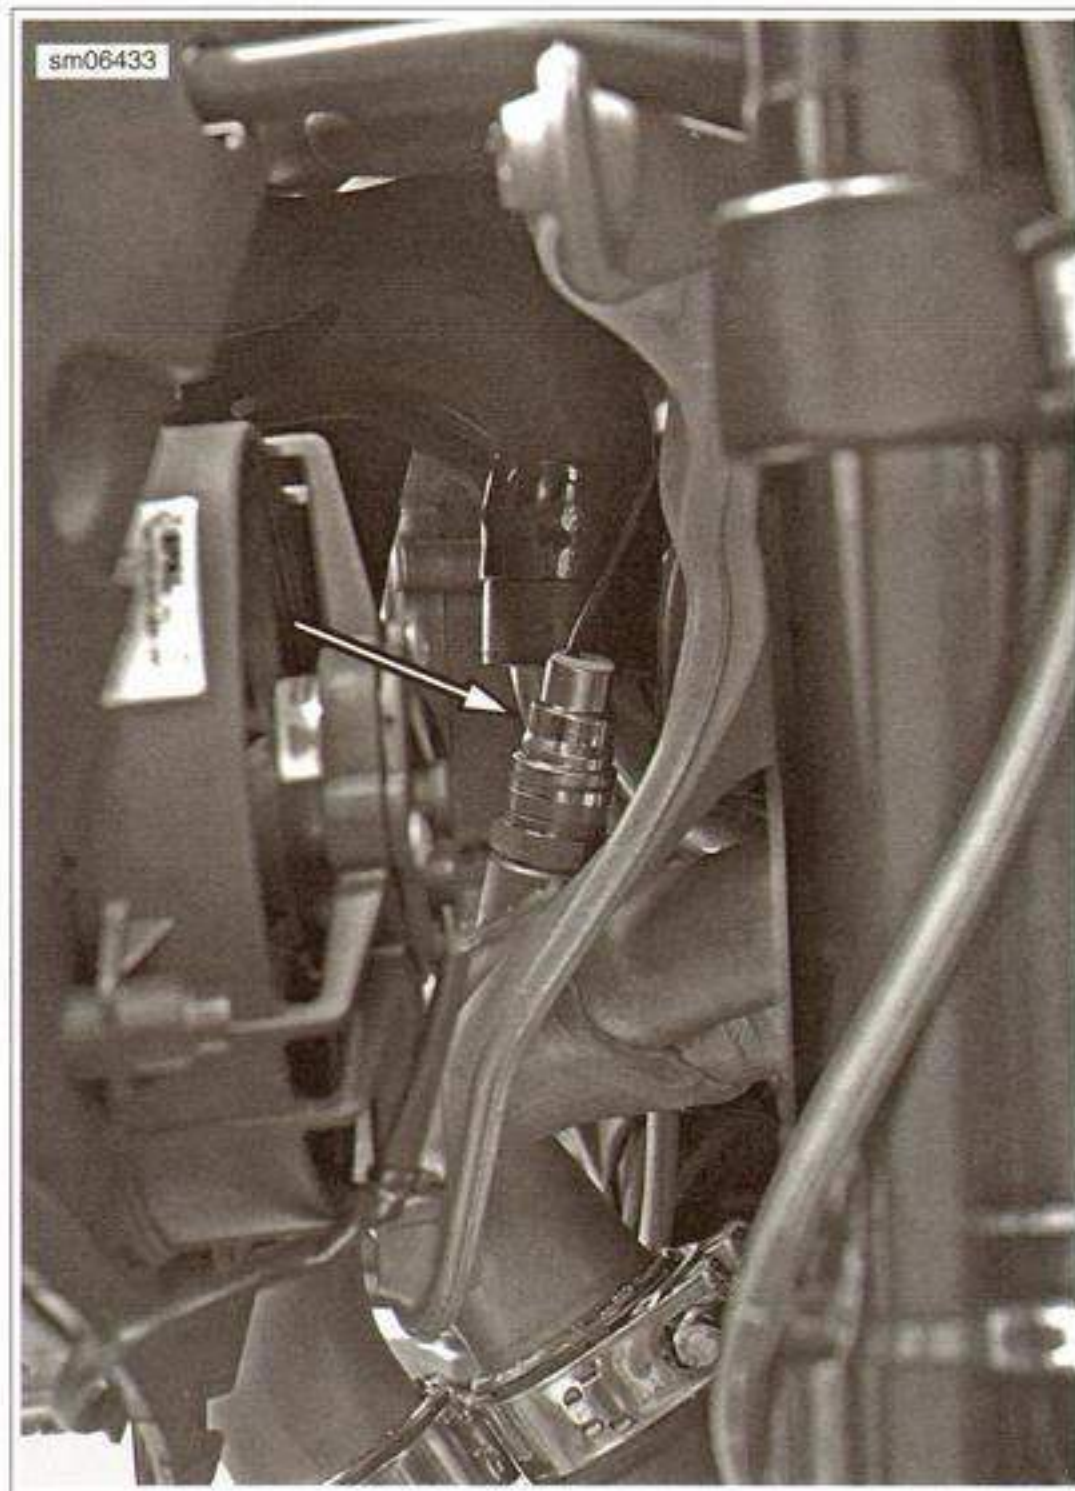

Figure 4-16. Front O2 Sensor
3. See Figure 4-16. Pull the radiator assembly away from the motorcycle to access the O2 sensor from the front.